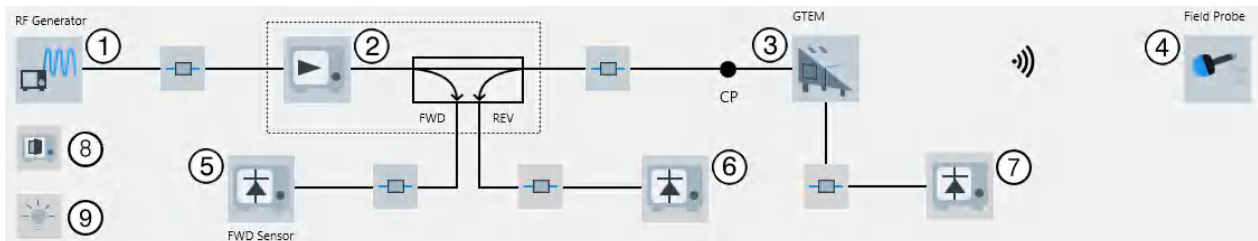

Figure 4-156: EMS hardware setup diagram (radiated) for a TEM Waveguide in Calibration View
- The "Calibration View" (see Figure 4-156)